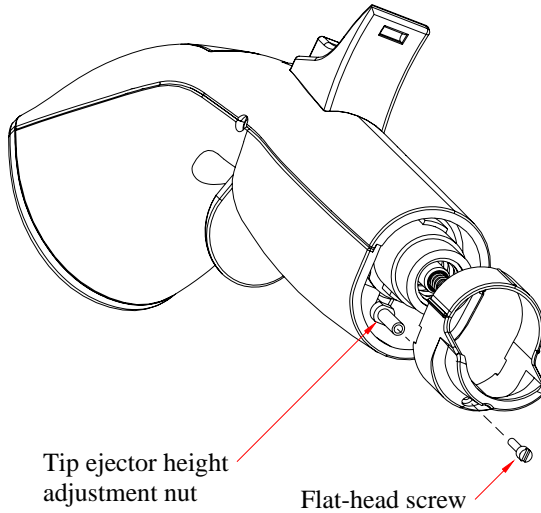

Figure 15 Tip ejector height adjustment
2. Remove the flat-head screw and bushing as shown in Figure 15.